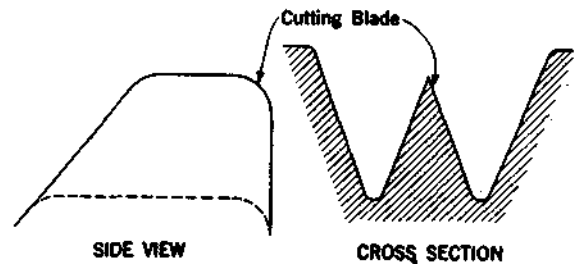

Fig. 1.
3.05 The shape of the cutting blade when in proper condition should be approximately in accordance with the enlarged view of the blade shown in Fig. 1. The rounded ends of the blade are obtained by further deepening the ends of the depressions at each side of the blade by filing slightly at a varying angle.